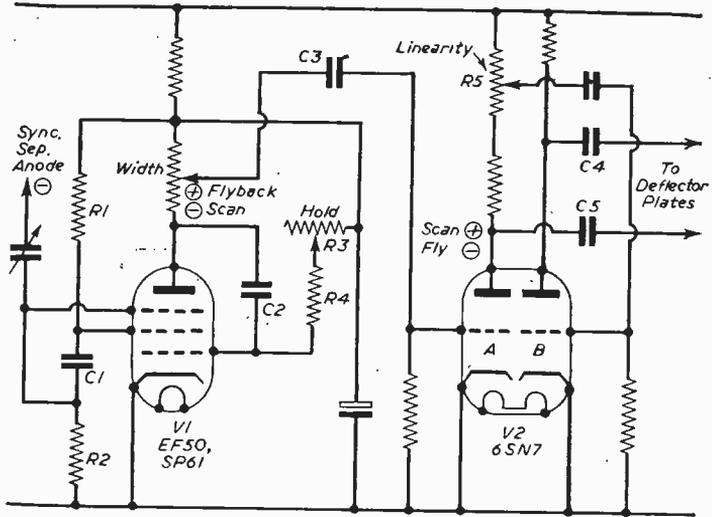

Fig. 50.—Time base and output circuit.
**The Miller Transitron Timebase (Fig. 50)**